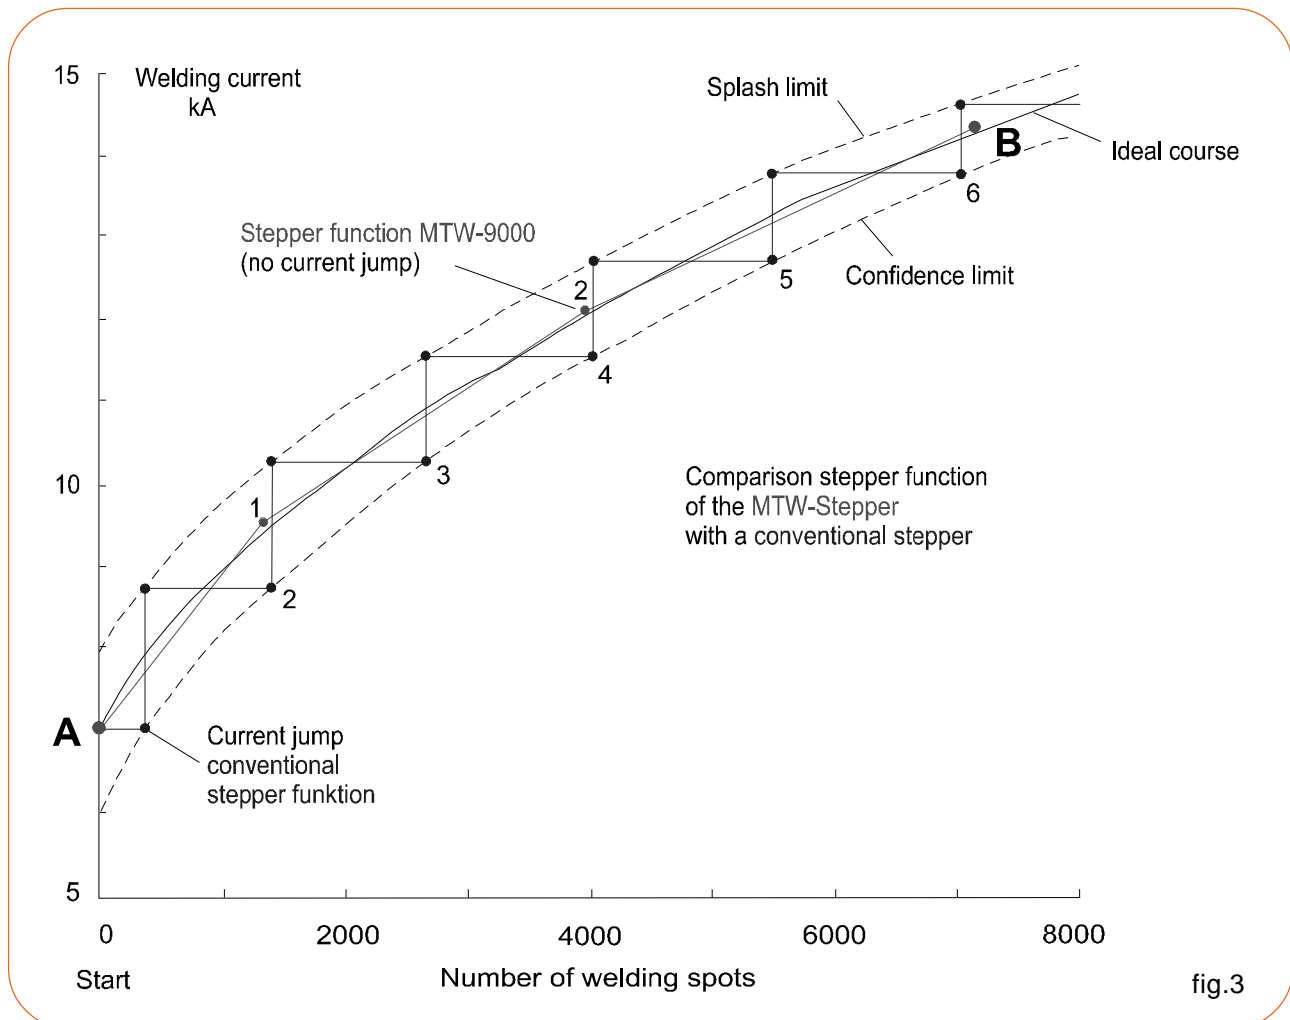

fig.3
Experimentally obtained experience can thus not be transferred to other welding tasks, and time-consuming tests are the result. The stepper function of the MTW-9000 does not have this disadvantage. The graphics in figure 3 clearly emphasize the differences. Imagine a rubber band that is fastened at two points. Fastening point (A) = current for new electrodes